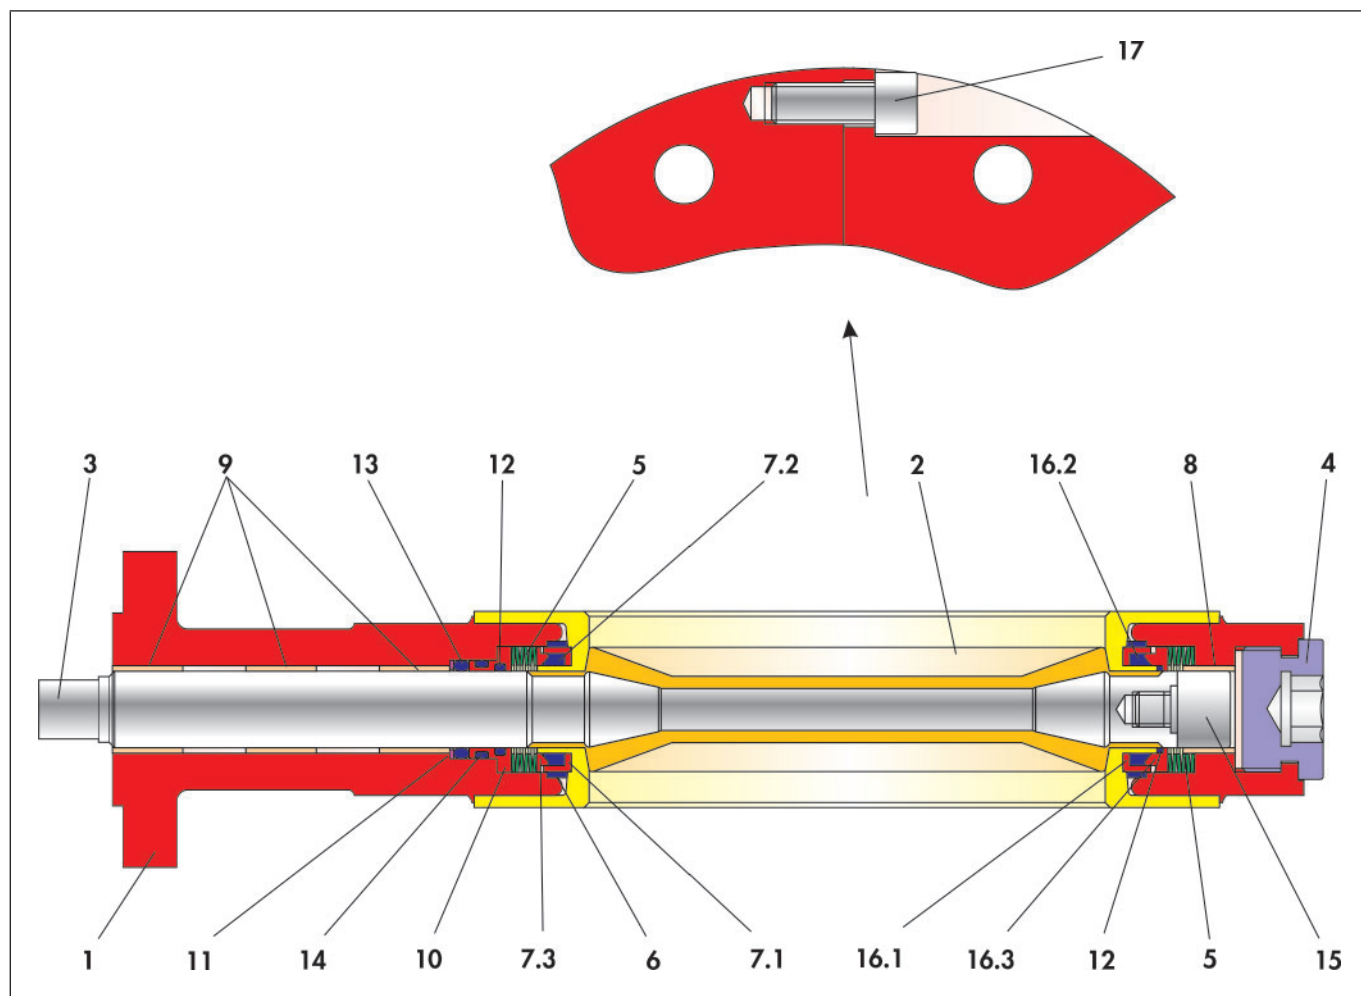

Fig. 3-2: Sectional drawing of the BR 10e butterfly valve
- ⇒ Place the disc (16.1) over the lower side of the valve shaft (3) and the bearing collar of the liner (2).
- ⇒ Position the o-ring (12) on the bearing collar of the liner.
- ⇒ Place an inlay (6) around the liner (2) such that the holes in the inlay fit in the bearing collar.
- ⇒ Screw the bearing screw (15) into the bearing journals of the valve disc (3).
- ⇒ Insert the bearing bush (8) into the shaft bore of the lower body half (1b).
- ⇒ Insert the disc spring set (5), comprised of 6 disc springs, into the corresponding positions of the body half (1b). Refer to Fig. 3-2 for the arrangement of the disc springs.
- ⇒ Insert the bearing bushes (9) into the shaft bore of the upper body half (1a).
- ⇒ Insert the washer (11) into the shaft bore up to the already assembled bearing bushing.
- ⇒ Place the o-ring (13) on the washer (11) in the shaft bore.
- ⇒ Insert the o-rings (12 and 14) into the corresponding recesses in the bush (10).
- ⇒ Insert the preassembled bush (10) into the shaft bore up to the o-ring (13).
- ⇒ Insert the disc spring set (5), comprised of 6 disc springs, into the corresponding positions of the body half (1a). Refer to Fig. 3-2 for the arrangement of the disc springs.